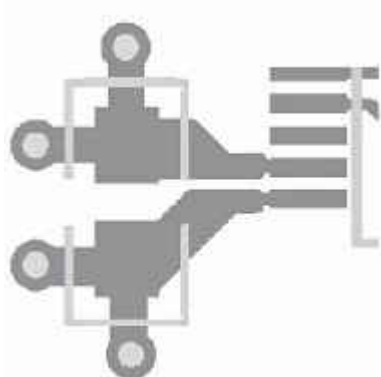

图 10-3. Good Layout
- Decoupling capacitor locations for the DMD must be as close as possible to the DMD. The pads of the capacitors must be connected to at least two or three vias to get a very low impedance to ground as shown in 图 10-3. Furthermore, the capacitor must be in the flow of the power trace as it goes to the input of the DMD.